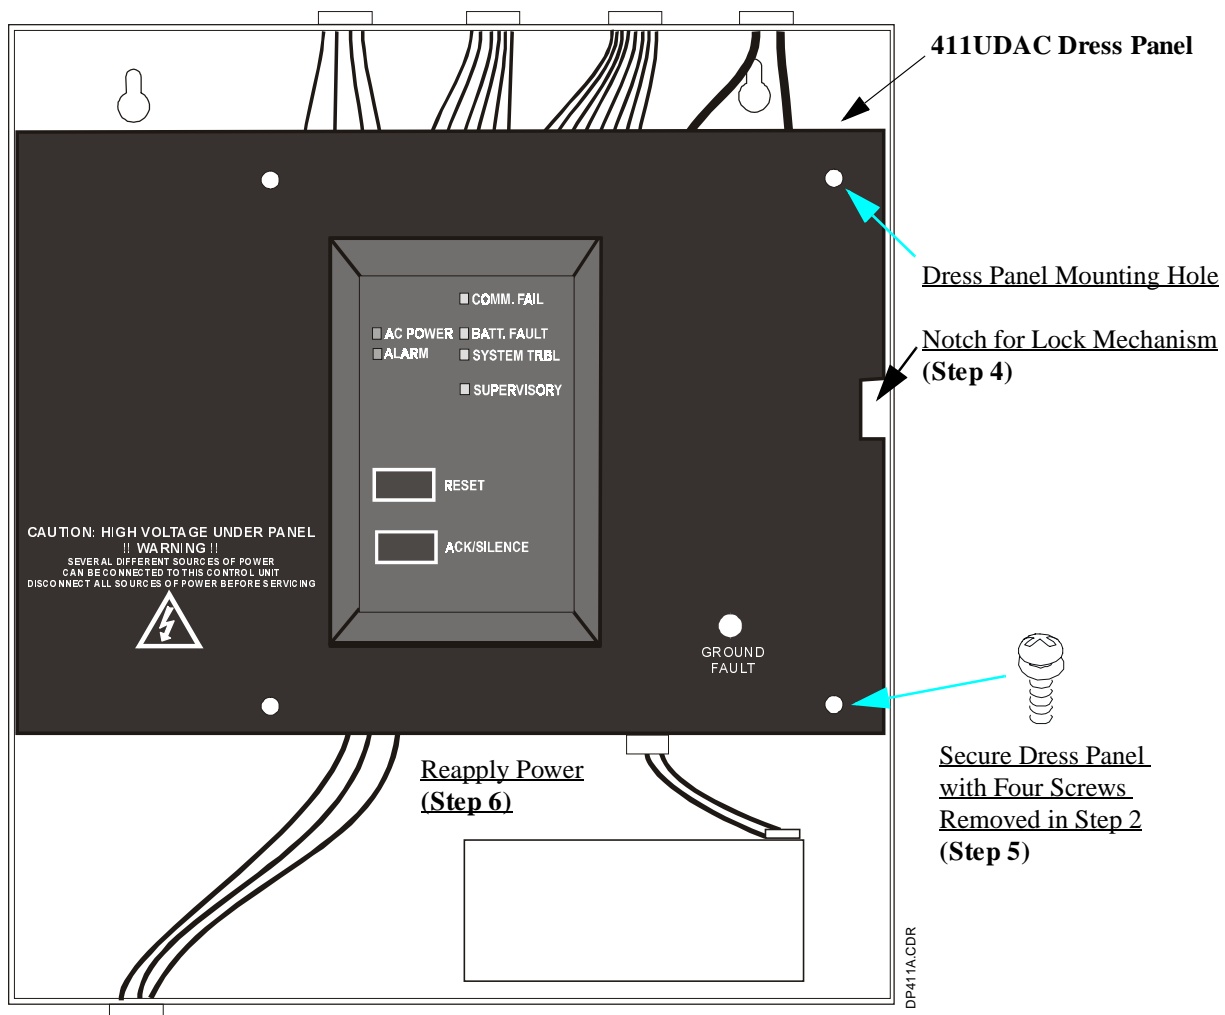

Figure 2: Dress Panel Installation
4. Position the four holes in the Dress Panel over the four standoffs installed in step 3. Note that the notched edge of the Dress Panel must be positioned to the right in order to accommodate the lock mechanism. Refer to Figure 2.
5. Complete the installation by securing the Dress Panel with the four screws and attached washers which were removed in step 2. Refer to Figure 2.